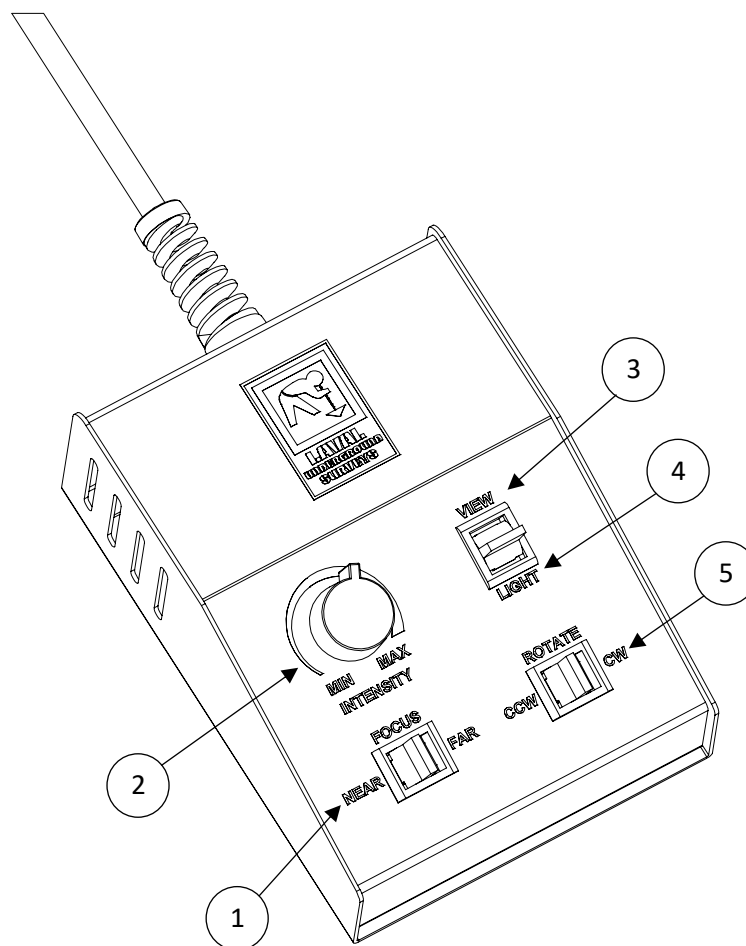

Figure 3
5. Secure both collars above the Side View Port refer to Figure 3 for example